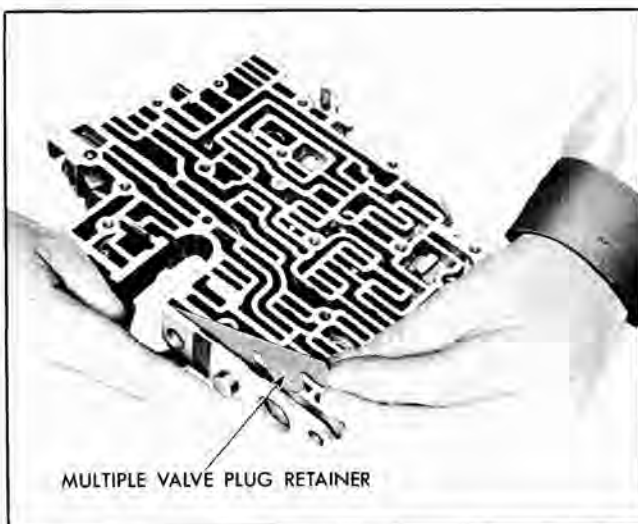

Fig. 112 Installing Multiple Valve Plug Retainer
28. Install valve bore plug in valve body compressing and partially installing multiple plug retainer. Install retainer in such a manner that only one corner of the plug is retained. This will permit the installation of the remaining valves (Fig. 112).